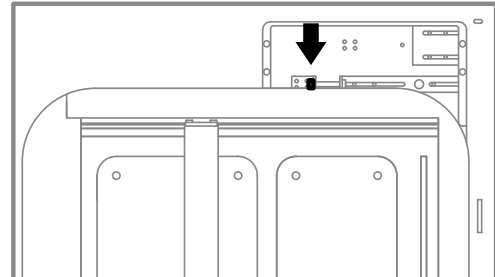

Fig. 12.65 Screw the marked bolt with a torque wrench.
10. Screw the marked bolt with a torque wrench (fig. 12.65). Tighten the cord for a value of 21 Ncm.